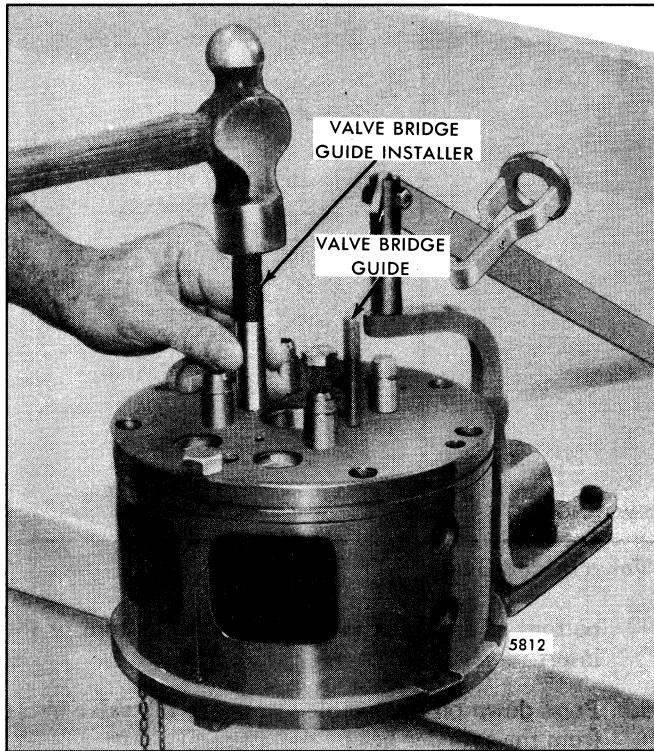

Fig. 9 - Installing Exhaust Valve Bridge Guide
- 3. With the guide properly started, place the valve bridge guide installer J 22487 over the guide and drive the guide into the cylinder head (Fig. 9). The tool properly positions the guide in the cylinder head. *The 125 hp-per-cylinder head has no bridge guides.*